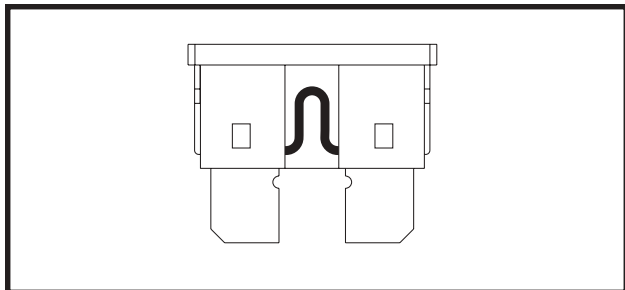

Figure 23. Working Fuse
2. Examine the fuse to be sure it is blown. See figures 23 and 23A.